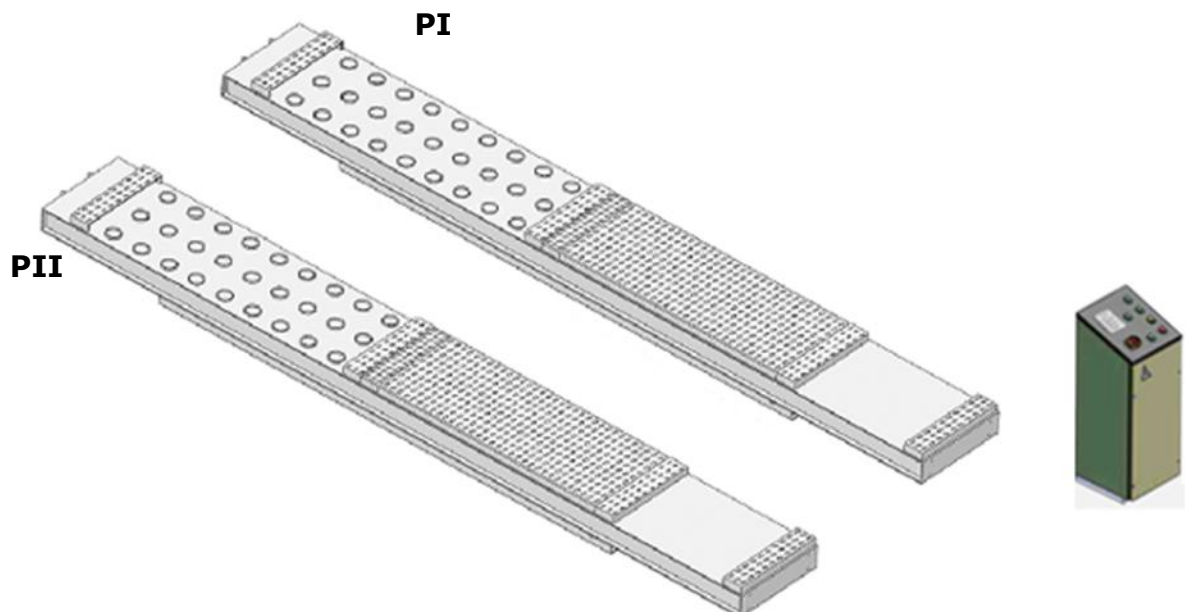

Fig. 13
1. Select a location and lay out the lift according to step **A** (See Fig. 13).